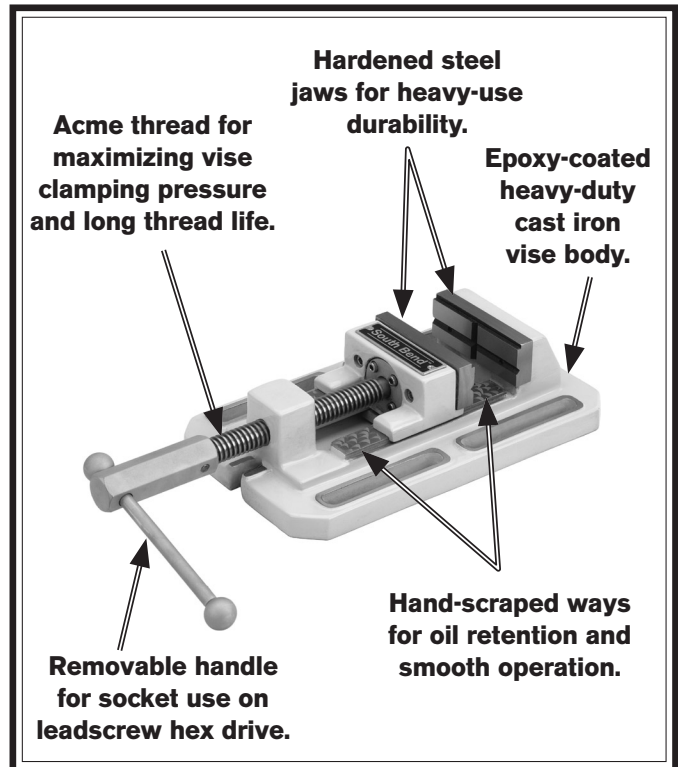

Figure 1. Features.
- Position the workpiece between the jaws and tighten the jaws with the handle. Never use a cheater pipe to increase leverage, or you may damage the vise. If you like, unthread the knob and remove the handle (**Figure 1**), so that a socket and ratchet can be used on the end of the leadscrew drive hex. However, never use any type of impact wrench to tighten the leadscrew.